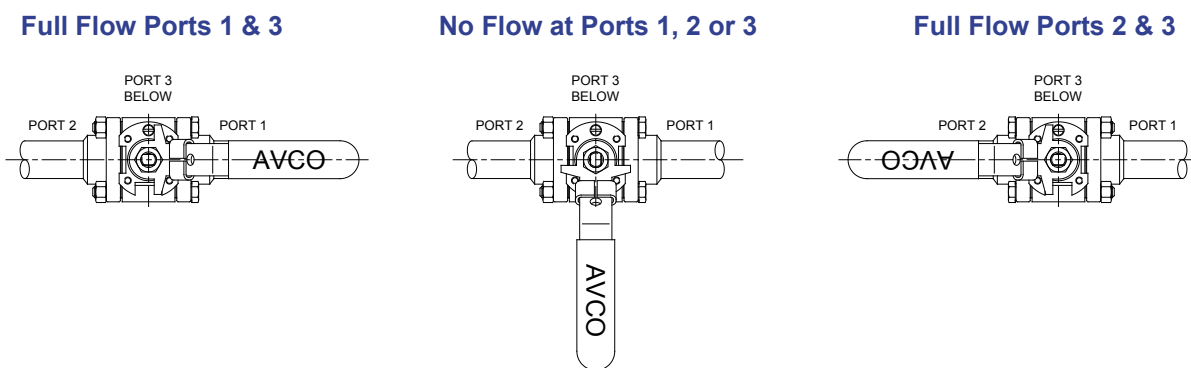

Fig. 5
- 5.3.1 For valve sizes up to 2" inclusive the lever has an integral stop to give full port 1 flow (port 2 has no flow), no flow at ports 1, 2 or 3, or full port 2 flow (port 1 has no flow), port 3 is always flowing when either port 1 or port 2 has flow. There is also a sliding lockable tab to prevent accidental or unauthorized operation of the valve. To operate, the lockable tab should be slid upwards and the lever rotated in the required direction. The tab can then be released to slide down and locate in its slot. The lever can only be correctly installed in one position. Rotating the lever clockwise from the mid-point increases flow to port 2 and counter-clockwise increases flow to port 1 (see fig. 5).